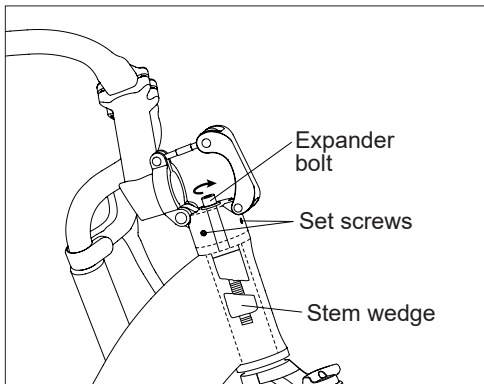

Fig. 48: Stem mounting parts.
2. Decrease the tightness of the expander bolt by two or three turns (Fig 48).
3. Decrease the tightness of all (4) set screws by two or three turns (Fig 48).
6. While applying the clamping force, tighten all (4) set screws around the bottom of the stem. This will temporarily hold the stem in place until the expander bolt can be tightened (Fig 48).